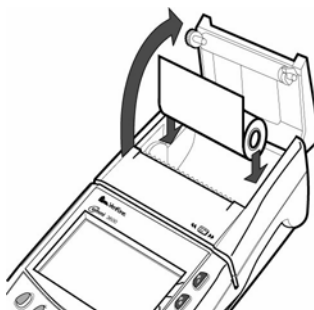

Figure 7 **Load Paper**
- 4 Hold the paper roll so paper feeds from the *bottom* (Figure 7) and pull approximately two inches of paper free of the roll.
- 5 Drop the paper roll into the printer tray, allowing the free paper to extend outside the printer door (Figure 7).